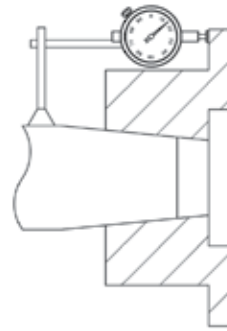

Figure 5 - Dial indicator placement for axial draw measurement example.
- 7.5. Mount a dial indicator to read axial hub advancement, as shown in Figure 5. Alternatively, the indicator can be positioned to contact the end of the hub. Set the indicator to “zero”.